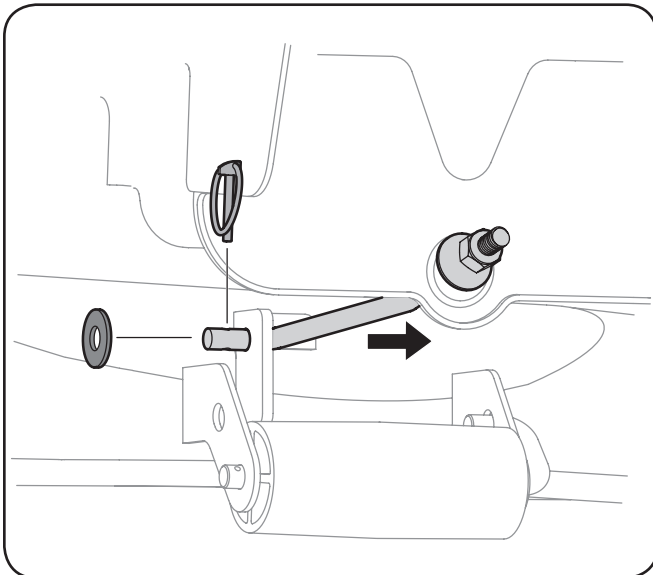

Figure 7-4
- Remove the cotter pin from the end of the stabilizer rod and slide the stabilizer out of the hanger bracket on the deck. See Figure 7-4.